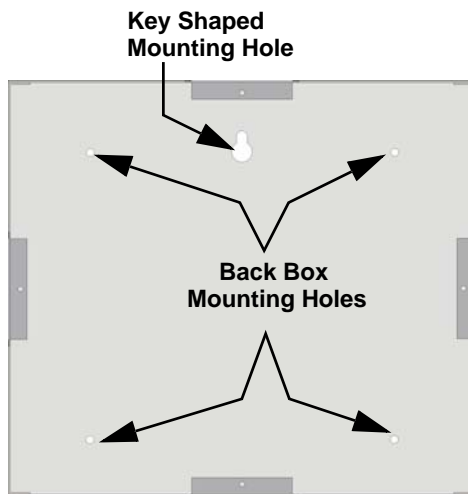

Figure 4.25 Back Box Surface Mount Holes
2. To properly mount the back box, insert a single screw into the key shaped mounting hole. Do not tighten all the way. See Figure 4.25.